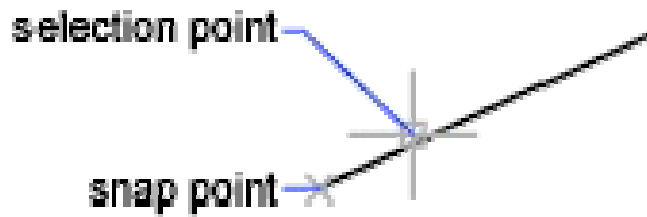

Figure 7.7 – Endpoint
*Endpoint* (fig. 7.7) snaps to the closest endpoint of an arc, elliptical arc, line, multiline, polyline segment, spline, region, or ray, or to the closest corner of a trace, solid, or 3D face.